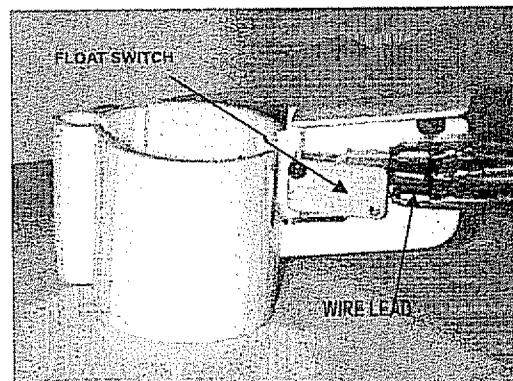

Figure 6
4. Install new float switch and reverse procedures to complete repairs (See figure 6).